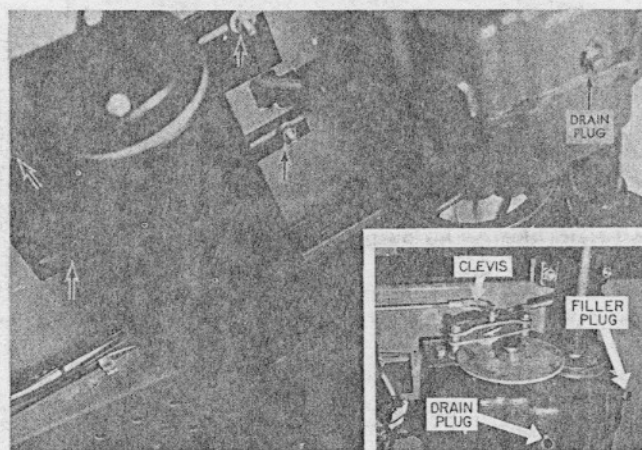
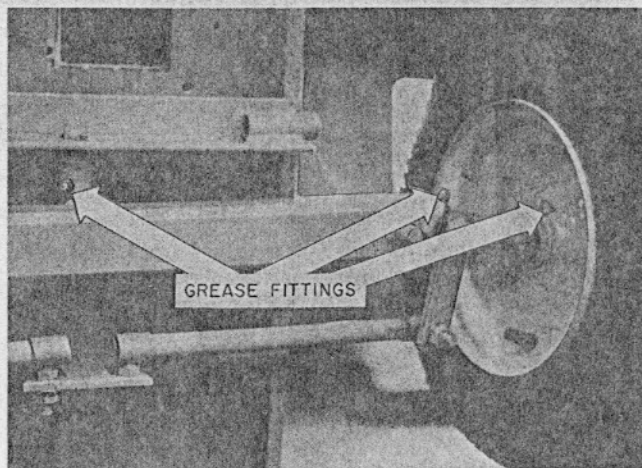

FIG. 19. Brake, Transaxle, and Motor Mounting
FIG. 20. Front End Grease Fittings
LUBRICATION (Fig. 19 & 20)
After every 100 operating hours, or every six months, the transaxle filler plug should be removed and the fluid level checked. (See Fig. 19). The oil level should be to the bottom edge of the filler hole. If necessary, replenish with SAE EP90. The front spindles, the front wheel bearings, and the front axle main pivot pin should be greased with a hand grease gun using a #2 multi-purpose grease. (See Fig. 20). Pump the gun until dirt and old grease are flushed out and wipe all surfaces clean.
1. Loosen the four carriage bolts holding the motor plate. Insert a $\frac{1}{4}$ inch wedge under the forward part of the motor plate, and retighten bolts finger tight. (See Fig. 19).
A fully depressed brake pedal or an engaged parking brake should prevent the tractor from rolling on average hillsides. If the brake does not perform satisfactorily, see the following adjustment procedure: (See Fig. 19 insert).